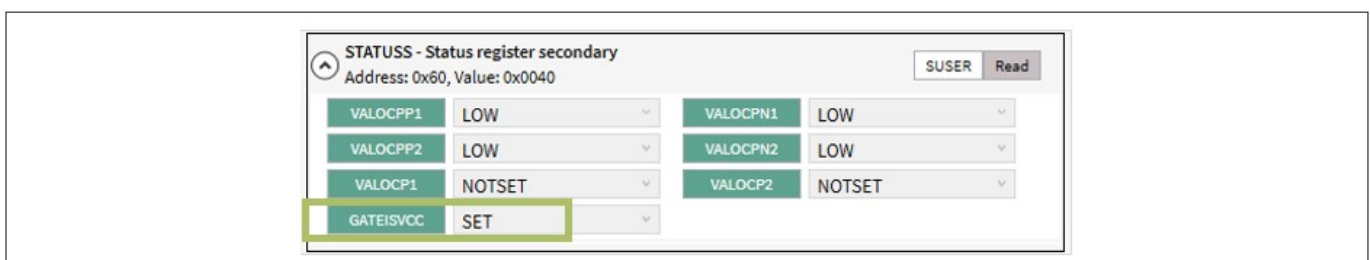

Figure 28 STATUSS panel confirmation - GATEISVCC
- Check field **GATEISVCC** in **STATUSS** register is set. This field shows the output of the gate monitor and can be used to check the TOUT state. See Figure 28